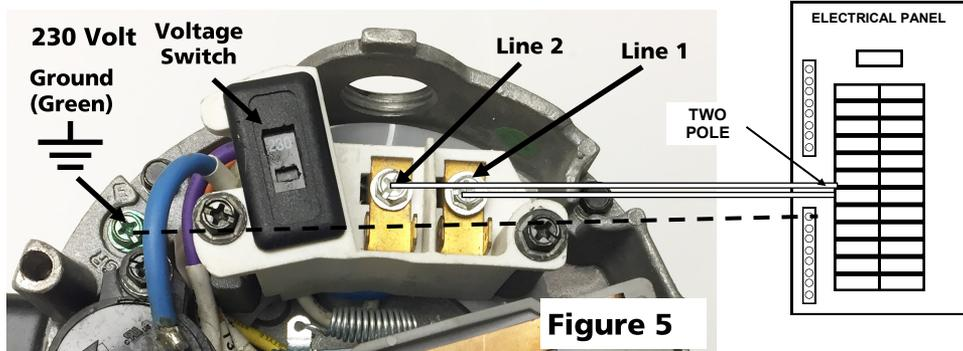

Figure 5
2. Connect one hot wire (usually black or red) from the power source to one of the line terminals on the pump. It doesn't matter which one. Follow wiring diagram in Figure 5.